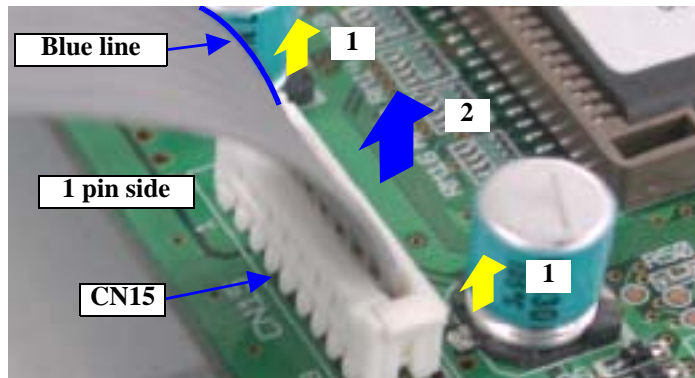

Figure 4-17. Connector Cable Lock Mechanism
- CN15 has a connector cable lock mechanism. Therefore, before disconnecting the Connector Cable, make sure that the lock mechanism has been cleared. When reconnecting the cable, insert the pins correctly into the corresponding ports of CN15. Refer to Figure 4-17, "Connector Cable Lock Mechanism".
- Mount the pin side, where a blue line is drawn on the Connector Cable, to the 1 pin side. Refer to Figure 4-17, "Connector Cable Lock Mechanism".